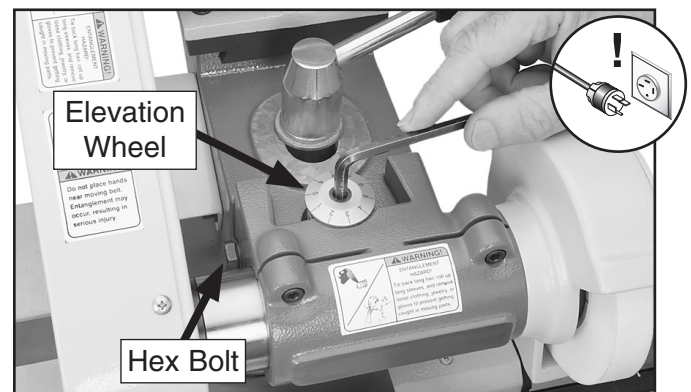

Figure 8. Adjusting the spindle centerline height.
2. Loosen the hex bolt on the left of the spindle housing (see **Figure 8**).